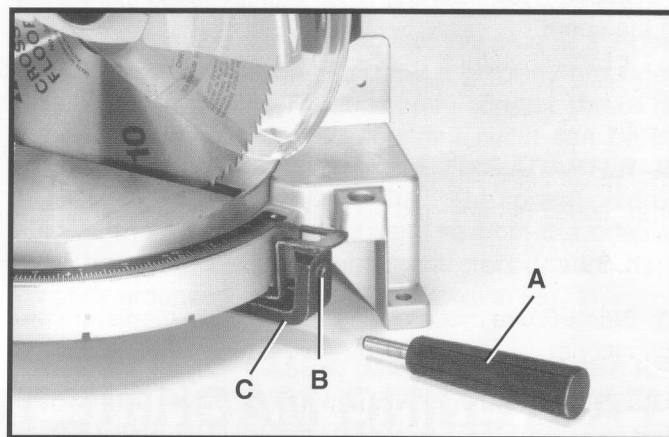

Fig. 3
1. Thread table lock handle (A) Fig. 3, into the threaded hole (B) of the arm bracket (C).